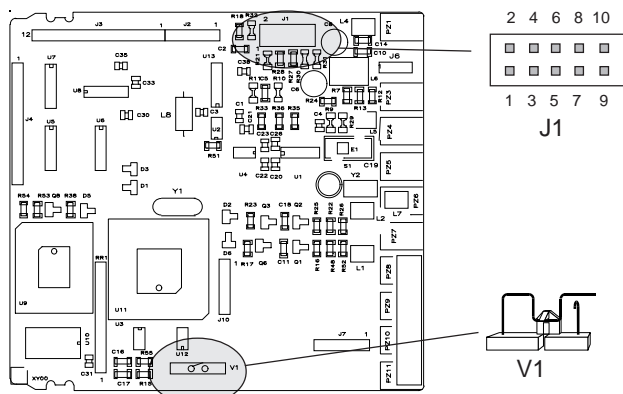

Fig. 1
- Set the dip switch V1 to the open condition (see fig. 1).